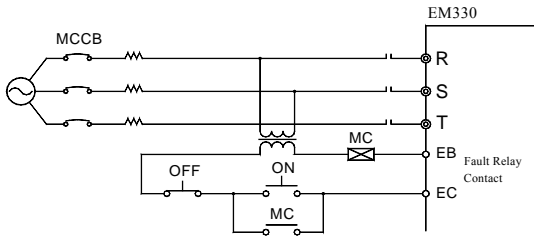

Figure 3-4 Connecting to Input Circuit Breaker
- If the same MCCB is used for more than one inverter, or other devices, the contact of fault output relay shall be connected to power contactor coil, so that the power supply will be turned off by the fault signals, as shown in Figure 3-4.
Install an electromagnetic contactor which is applicable to the power of inverter as shown in Figure 3-4.